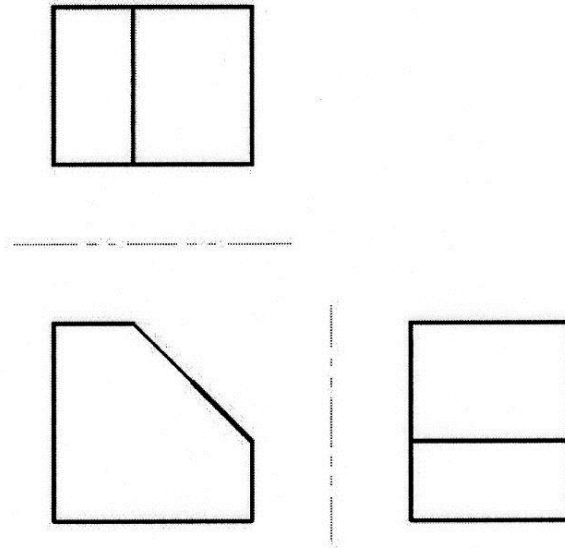

Figure 4. Inclined Surface as an Edge in the Front View.
- ii) Depth auxiliary views are always projected from a front view (Figure 4).